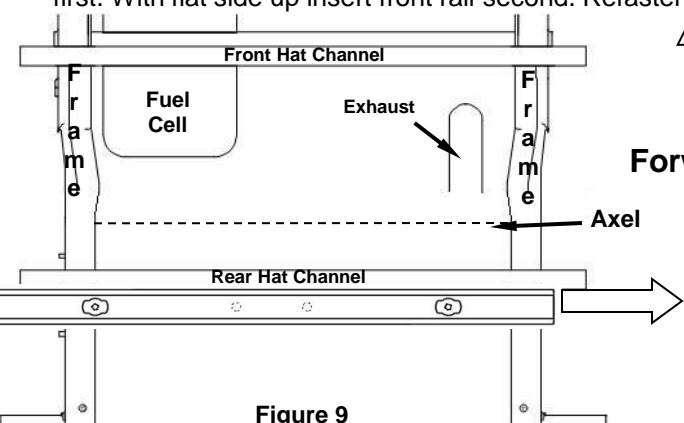

Figure 9
8. Insert rails as shown in the following steps (Figures 9 through 14). With flat side up rear rail should be inserted first. With flat side up insert front rail second. Refasten truck bed bolts after rails are inserted.